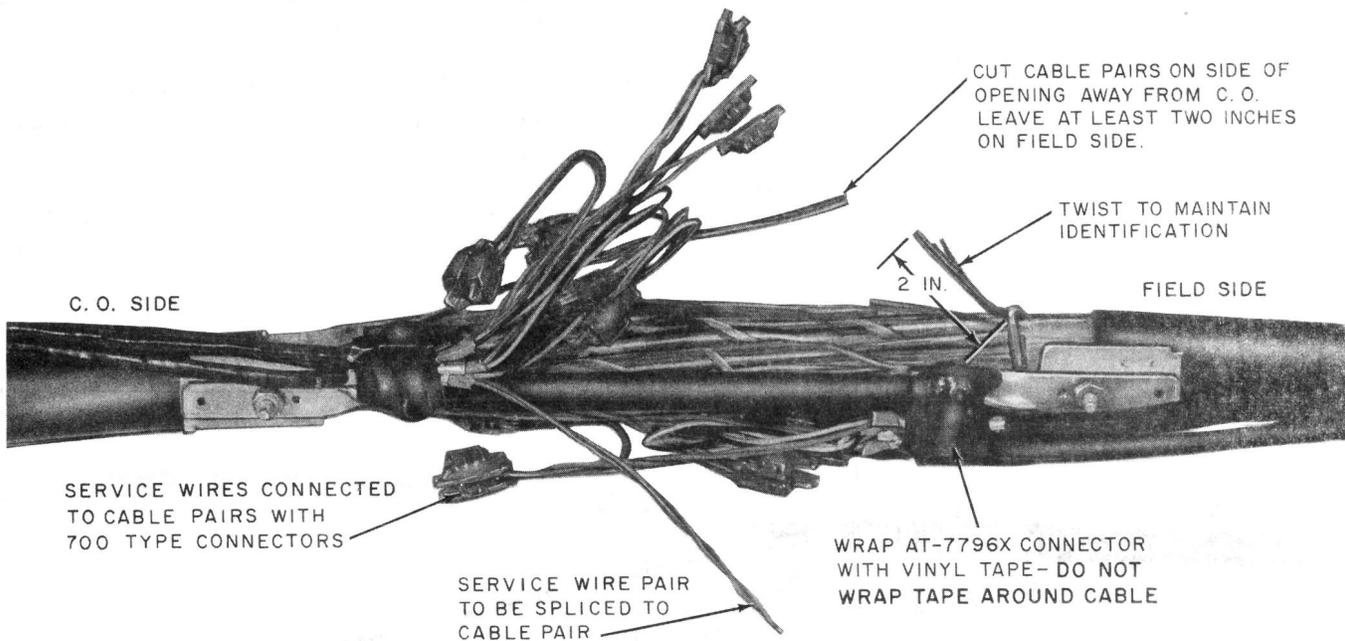

Fig. 5—Splicing Cable Pairs—13-Type Closure
- 13-Type (Fig. 5)
3.03 Splice the service wire to the cable pairs using 700-type connectors **only**, as shown in Fig. 5 or 6.